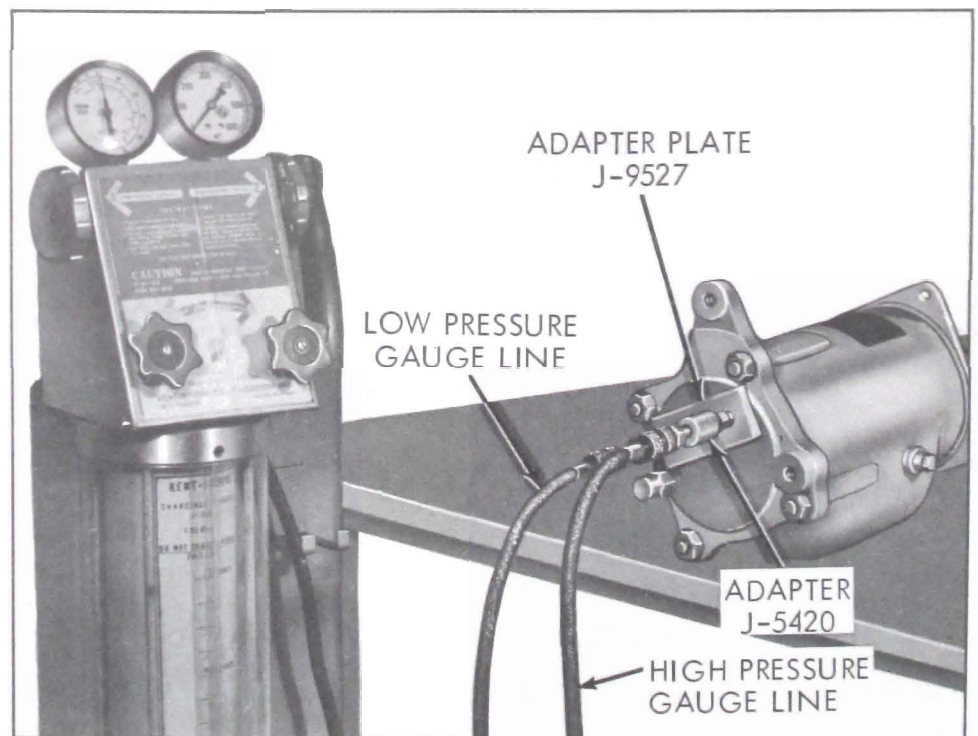

Figure 11-57—Charging Line Adapter Plate
5. Attach charging line adapter plate, J-9527 on rear of compressor and pressurize suction side of compressor with refrigerant 12 at pressure corresponding to room temperature. Rotate compressor shaft several times. See Figure 11-57. Leak test with leak detector and correct any leaks.